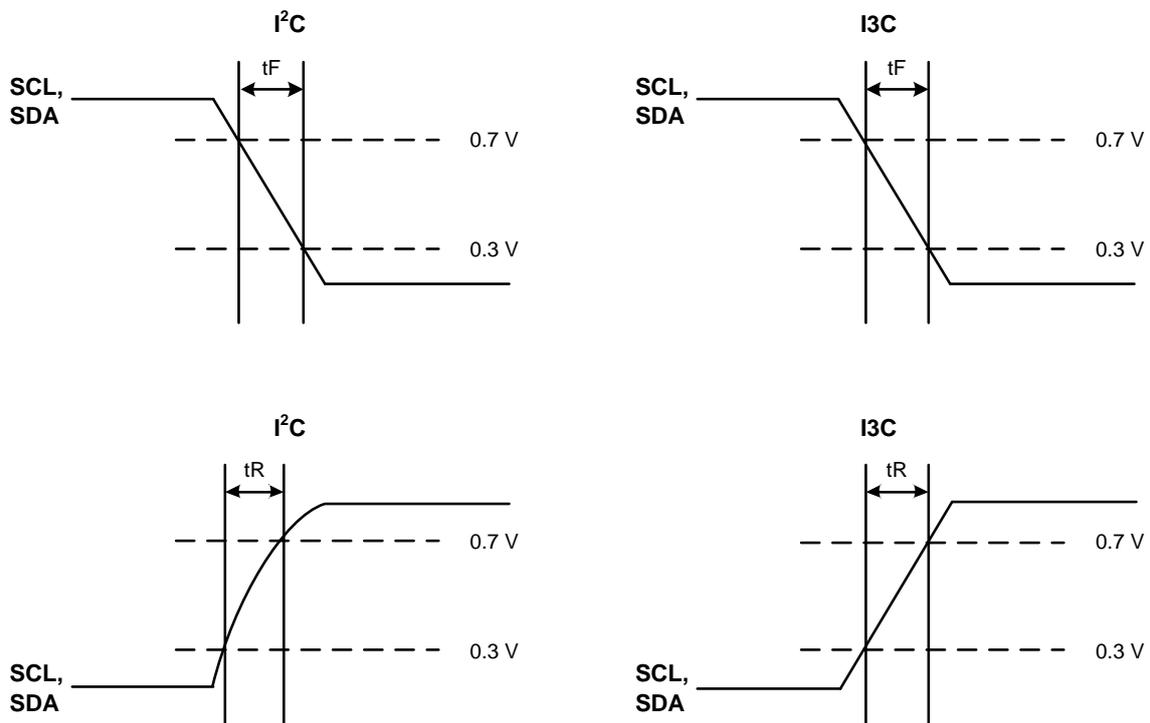

Figure 7 Rise and Fall Timing Parameter Definition
- See Figure 7 for voltage threshold definition for rise and fall times.